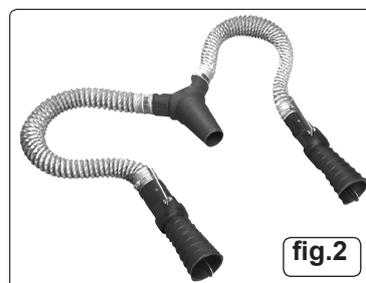

fig.2
**NOTE:** For cars with twin exhausts, an accessory is available. Order Model No: EFS07DE (fig.2).